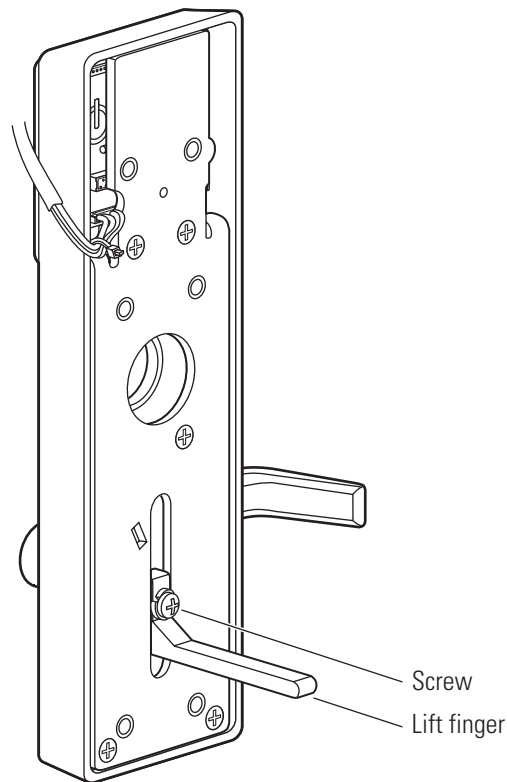

Figure 10.3 Removing and reinstalling the lift finger (Precision Hardware rim configuration shown)
2. Note the orientation of the lift finger. See Figure 10.3.
2. Position the washer on the lift finger screw. Tightly secure the lift finger with the lift finger screw (25-30 lbs. torque). See Figure 10.3.